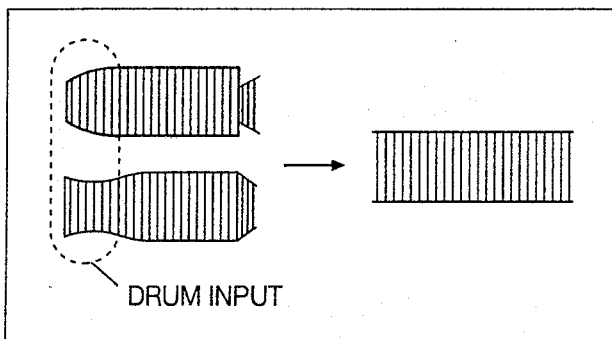

Fig. 5-8
B. If the ENVELOPE waveform as shown in Fig.5-8, 9, 10 is not uniformed, adjust the S, T GUIDE ROLLER repeatedly at the point of nonflat.